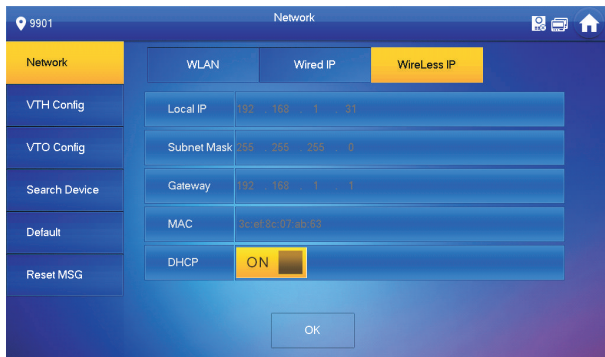

Figure 3-21
- ◇ At "WLAN" interface, select WIFI, click "Wireless IP" tab, press ☐ OFF to enable DHCP function and obtain IP info automatically, as shown in Figure 3-21.